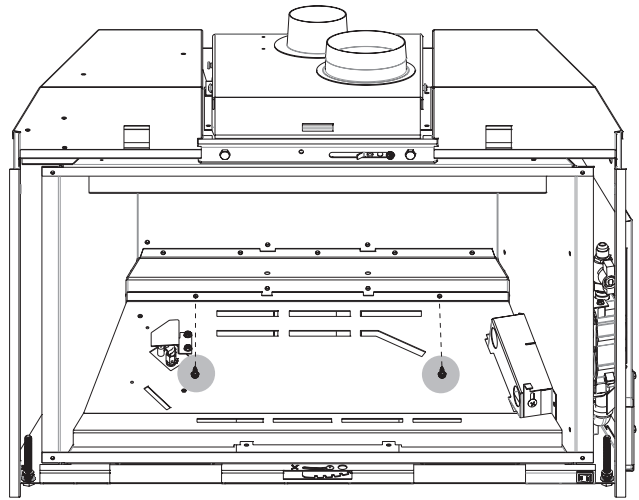

Figure 4
5. Remove (2) screws holding burner base in place. Lift burner base out of firebox. See Figures 4 and 5.